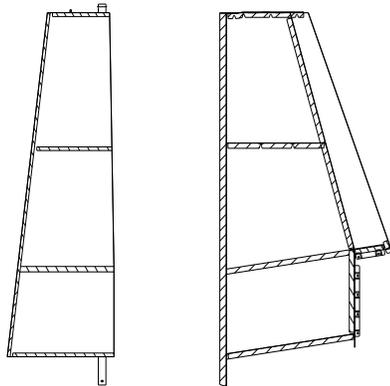

**FIGURE 1
1. Carefully inspect all bondlines of the wings, stabilizers and fuselage (Figure 2 & 3) for bondline separation using the “Tap Test” method. With a coin or similar object, tap the length of each bondline while listening for a change in tone as the area is traversed. A bondline separation will produce a flat or hollow sound when tapped in the delaminated area. Mark delaminated areas with a grease pencil on the outer surface. (Figure 1)